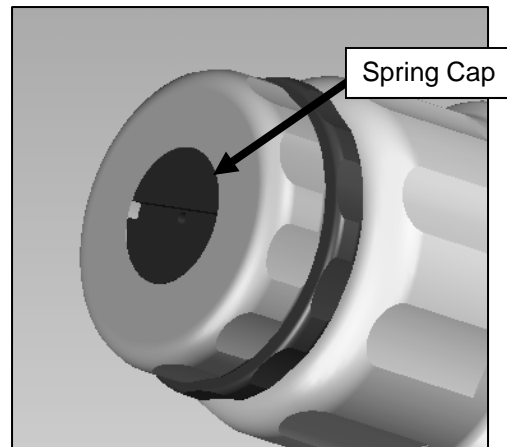

Figure 8
3. Unscrew the spring cap from the fluid adjustment knob (See Figure 8).